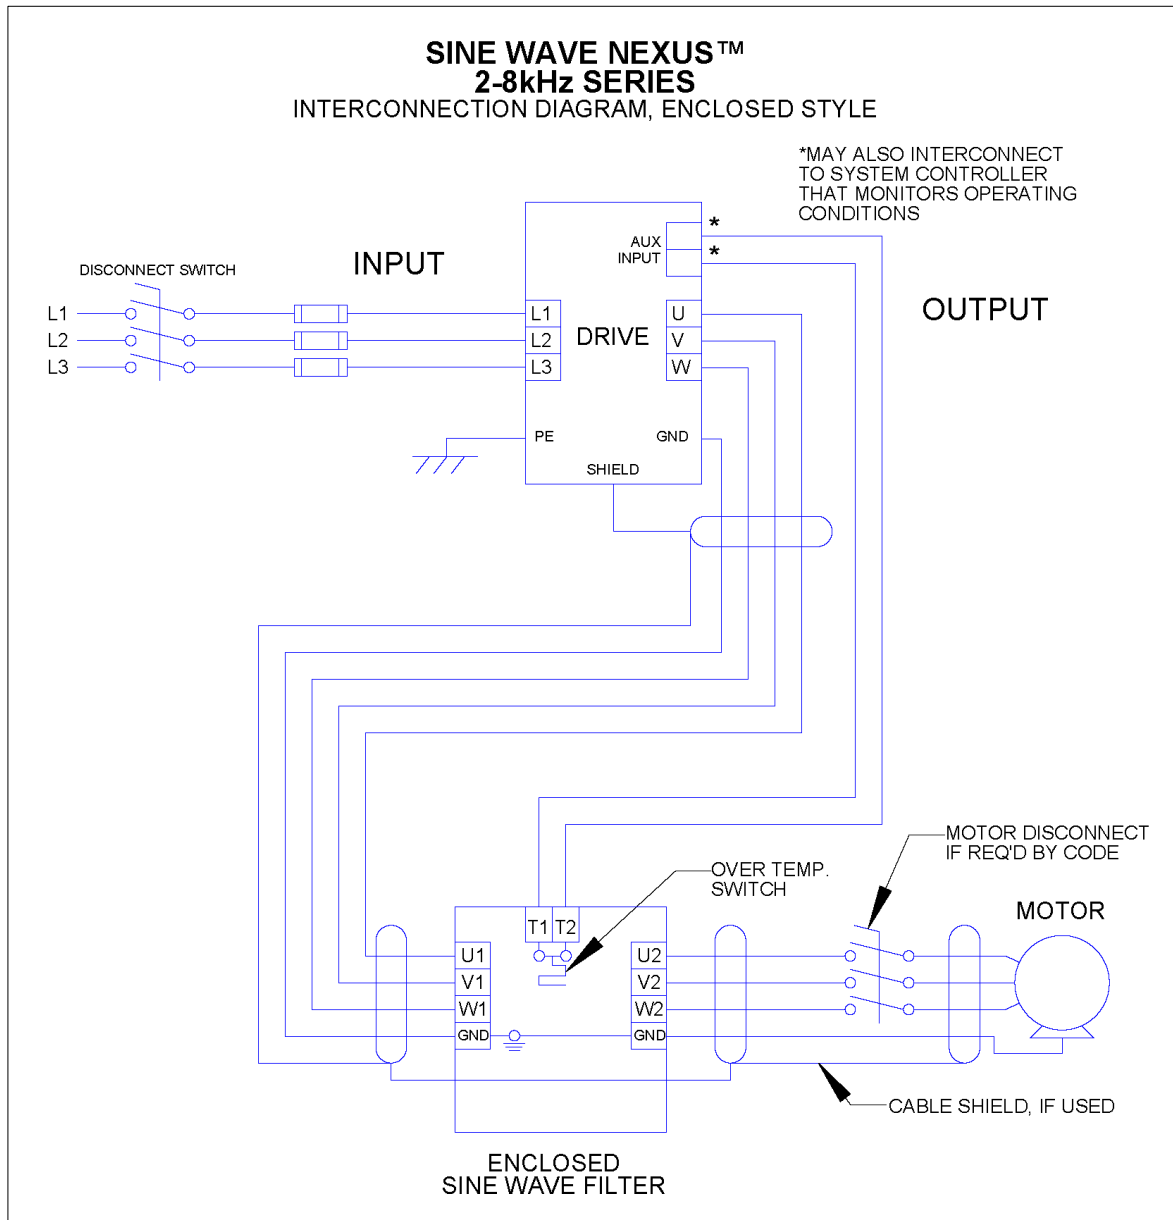

Figure 5-2: Enclosed Interconnection
- For filters supplied in general purpose NEMA 1/2 & NEMA 3R cabinets, interconnection between the filter, its power source, the motor, and the drive is shown in Figure 5-2: Enclosed Interconnection (p23).